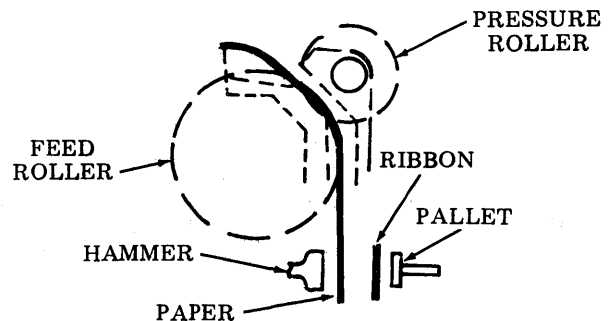

Fig. 50—Friction Feed Printer Without Noise-Reduction Parts
9.05 Rotate paper until leading edge appears under pressure roller shaft. Be sure paper is not between type pallets and ribbon (Fig. 50).